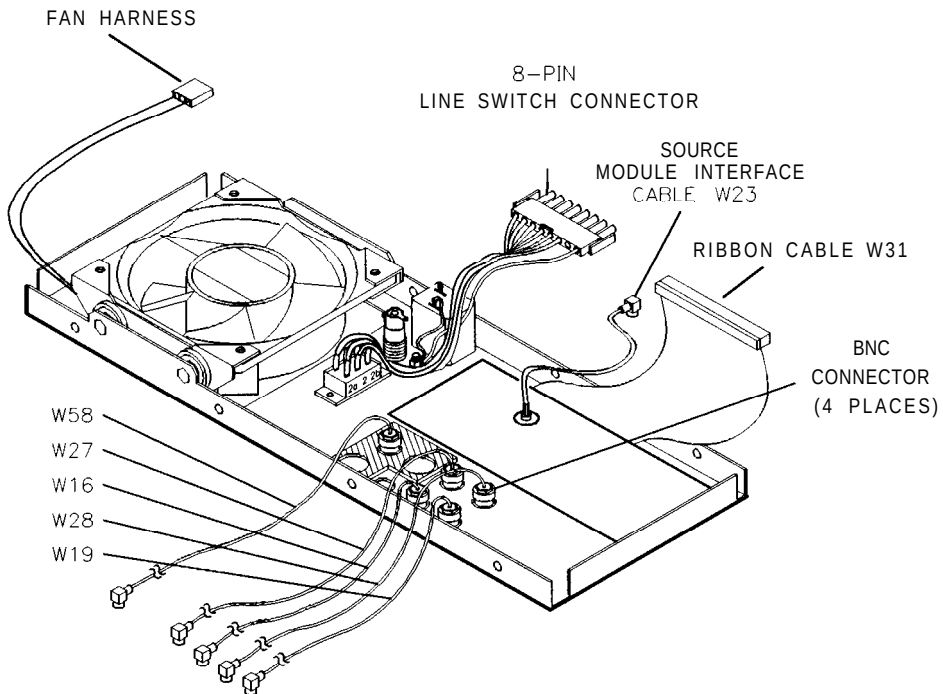

Figure 7-35. Rear Panel Cable Locations
4. Disconnect ribbon cable W31 from the motherboard. Refer to Figure 7-35.